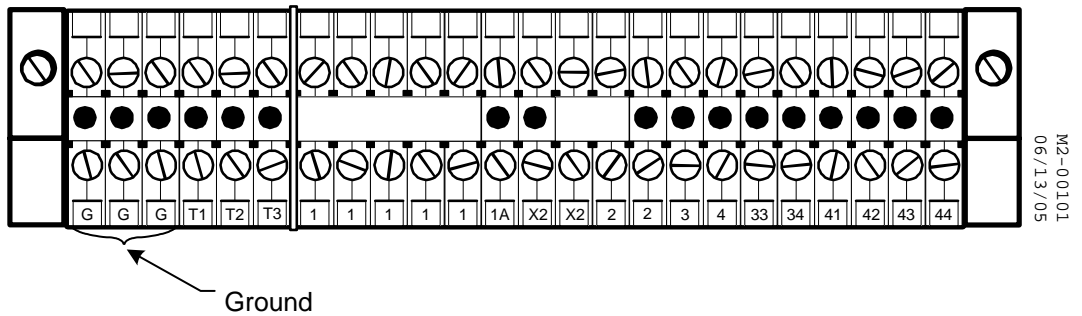

Figure 4-3: Ground Connection on Terminal Block
2. Connect the motor ground wires (ground wire and shield wire) to the ground terminals. See Figure 4-3.